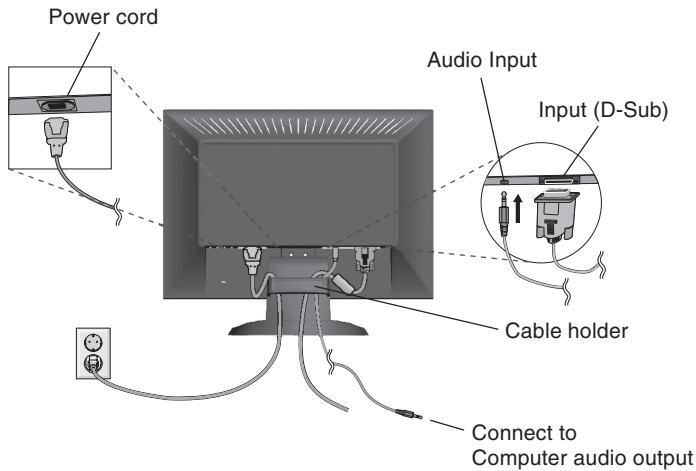
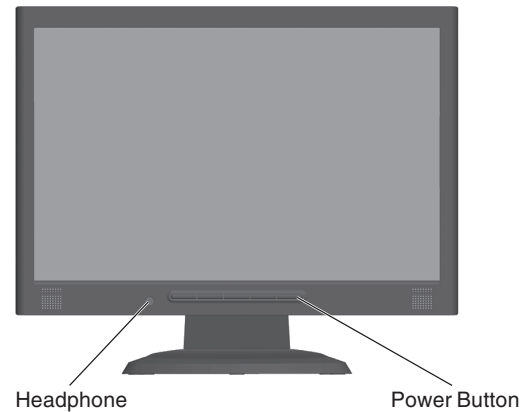

Figure B.1
Figure C.1
- Connect the 15-pin mini D-SUB of the video signal cable and Audio Cable to the appropriate connector on the back of the monitor (**Figure B.1**). Connect the Headphone (not included) to the appropriate connector at the front of the monitor (**Figure C.1**).
- Connect one end of the power cord to the monitor and the other end to the power outlet. Place the Video Signal Cable and power cord to the Cable holder (**Figure B.1**).
- Turn on the monitor with the front power button and the computer (**Figure C.1**).